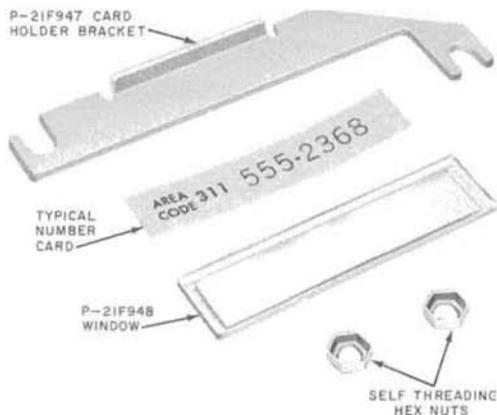

Fig. 14—Number Card and Associated Hardware (TOUCH-TONE)
- (b) A P-21F947 card holder bracket, P-21F948 window, and two hex nuts (Fig. 14) are packaged separately and shipped in the cash compartment.
- (1) Remove dial housing.